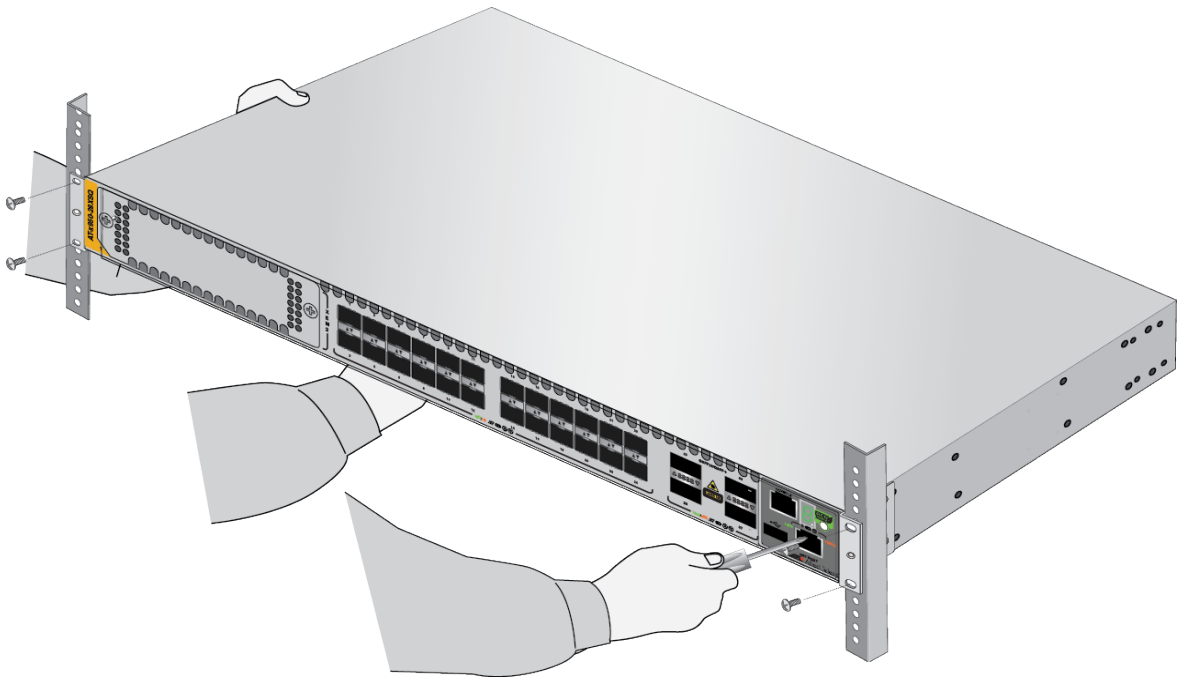

Figure 88. Installing the Switch in an Equipment Rack
4. Have another person hold the switch in the equipment rack while you secure it using standard equipment rack screws (not provided). Refer to Figure 88.